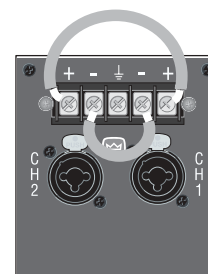

Figure 3.9 Jumper Placement to Parallel the Inputs
2. Feed your signal to the Channel-1 input (either barrier-block or combo). Connect a jumper wire (Figure 3.9) between the barrier-block Channel-1 (+) screw terminal and the Channel-2 (+) screw terminal. Connect another jumper wire between the Channel-1 (-) screw terminal and the Channel-2 (-) screw terminal.